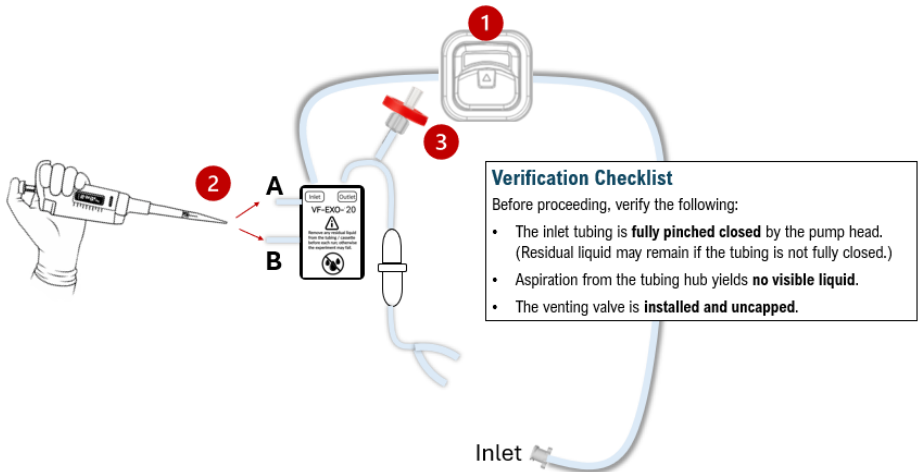

Figure 6 – Emptying tubing hub
Reminder: When reusing a process tubing, confirm that the **tubing hub emptying** steps in Figure 6 are complete.
- Using a pipette with a **1 mL tip**, **fully insert the tip into tubing ends A and B to form a seal**, then aspirate any remaining liquid from tubing ends A and B **until no liquid can be withdrawn**, as shown in Figure 6.
- Before automated cleaning, confirm that the **tubing hub emptying** steps in Figure 6 are complete.
- Before beginning Processing, confirm that the **tubing hub emptying** steps in Figure 6 are complete.
Failure to empty the Tubing Hub before each run, as described in Figure 6, " Emptying the Tubing Hub. "	The pre-test may fail, and sample loading may be incomplete or result in excessive elution volume.